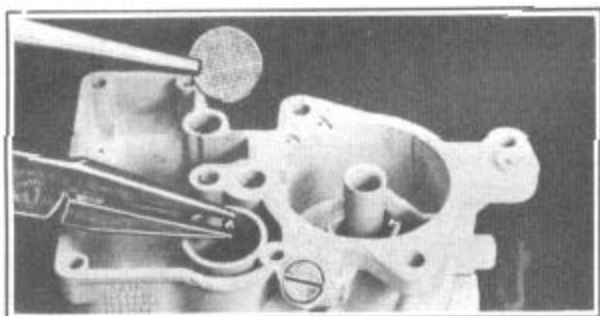

FIGURE 32
13. Install pump intake check ball and pump strainer, Figure 32.